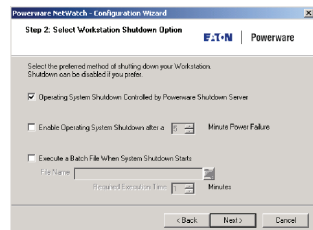

Figure 17. Verify Configuration Settings
10. Select your preferred method of shutting down your system (see Figure 17). The default selection is recommended. Select **Next**.